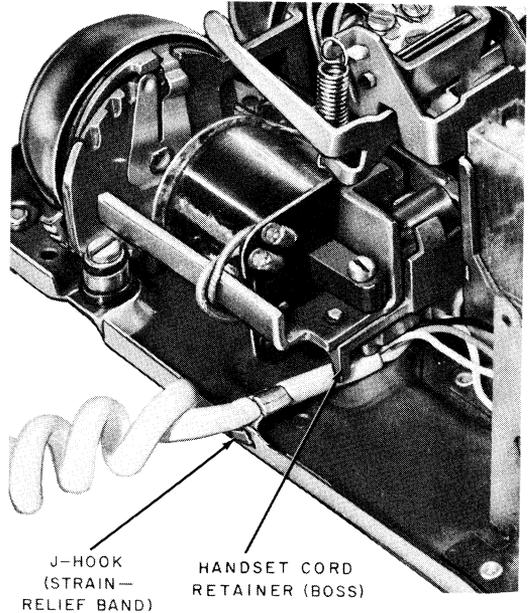

Fig. 4—Handset Cord Retainer
- Provide information and to add Fig. 4 on the handset cord retainer.
1.05 Current models of the C4A ringer are equipped with a handset cord retainer (boss) for use with 500- and 501-type telephone sets (Fig. 4). The free handset cord conductors should be placed under this boss, or under the frame of the ringer on those sets without a boss.